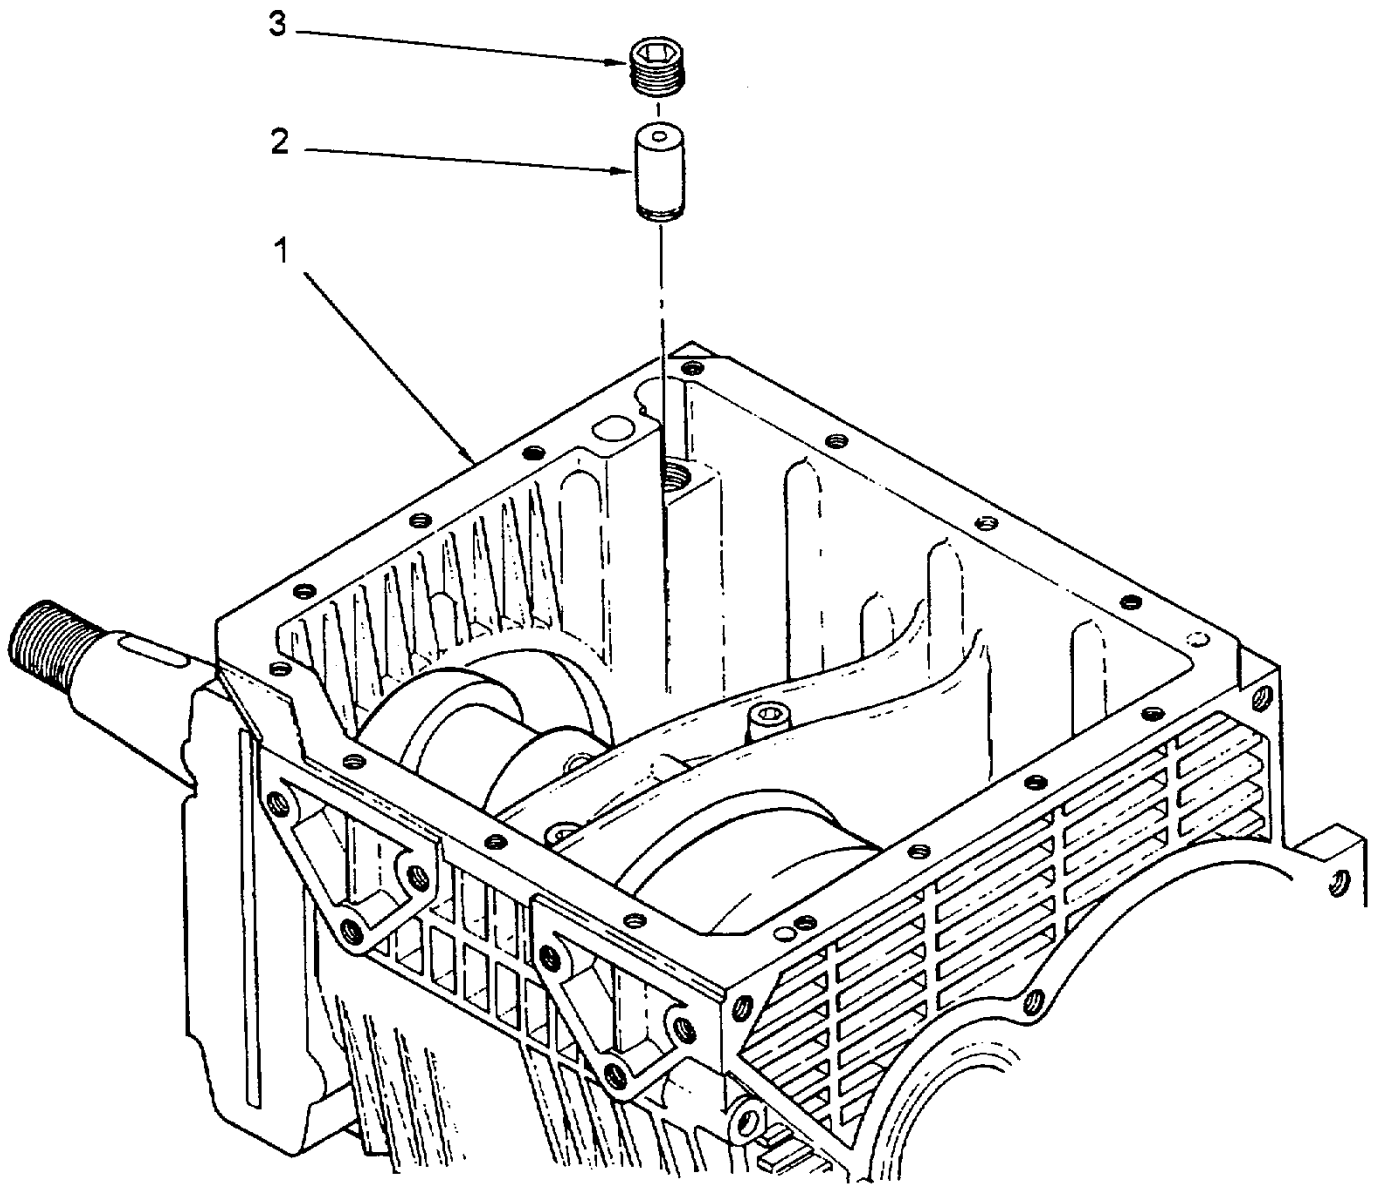

Figure 6-25. Oil Pressure Relief Valve Installation
6.4.3 Install Oil Pressure Relief Valve. (Refer to figure 6-25.)